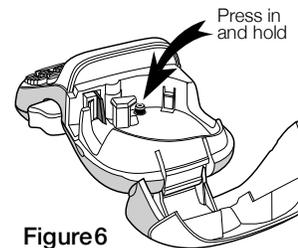

Figure 6
- 2 Place the tip of a ball-point pen or pencil on the black post as shown in Figure 6, and press the post down.
- 2 Gently wipe the padded side of the cleaning tool across the print head. See Figure 6.